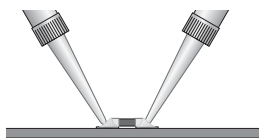

Figure 1.3.
- 2 With a soldering iron in each hand, hold one tip on the solder at one end of the component and the other tip on the other end (Figure 1.3).